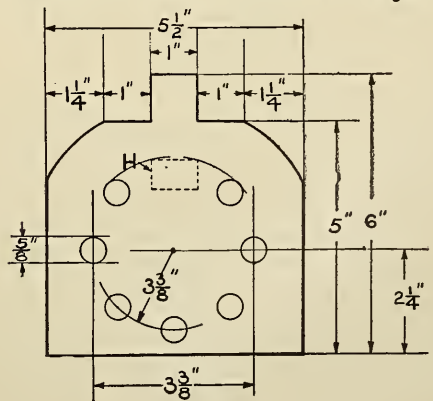
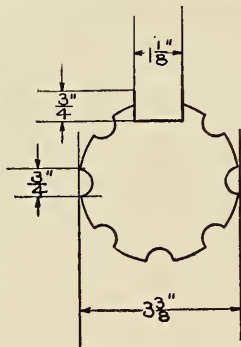

FIG. 60
FIG. 61
oak two pieces of dimensions given in Fig. 60 and drill the holes as indicated. Cut two other pieces of dimensions in Fig. 61 from some  $\frac{1}{4}$  or  $\frac{3}{8}$ -inch wood. Now obtain seven round pieces of wood  $\frac{5}{8}$  inch in diameter and 16 inches long. Wrap around each of these pieces two layers of asbestos paper. This paper should not come nearer than  $\frac{7}{8}$  inch from the ends of the pieces of wood. One end of all of these pieces can now be glued in the holes of one of the pieces shown in Fig. 60. Slip the two pieces shown in Fig. 61 down inside of the asbestos covered strips and then glue the other ends into the holes in the second end-piece. The two pieces inside of the cage just formed should be so placed that the distance between the two end pieces is divided into three equal parts. A small finishing nail may be driven, and counter sunk through the round wooden rods into these separators after they are put in place to hold them. Cut from some oak a piece
one inch wide,  $\frac{5}{8}$  inch thick and  $12\frac{1}{4}$  inches long: Cover this piece with asbestos paper as you did the round pieces except the paper should go to the end of the piece. This piece should be fastened at the point marked (H) Fig. 60, by means of two screws that pass through the end-pieces from the outside.